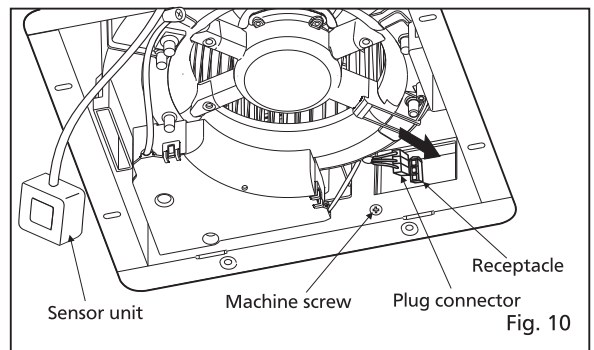

Fig. 10
7. Connect the machine screw. (Fig. 10)
8. Connect plug connector to receptacle. (Fig. 10)
5. Secure the adaptor to fan body by using machine screw. (Fig. 10)